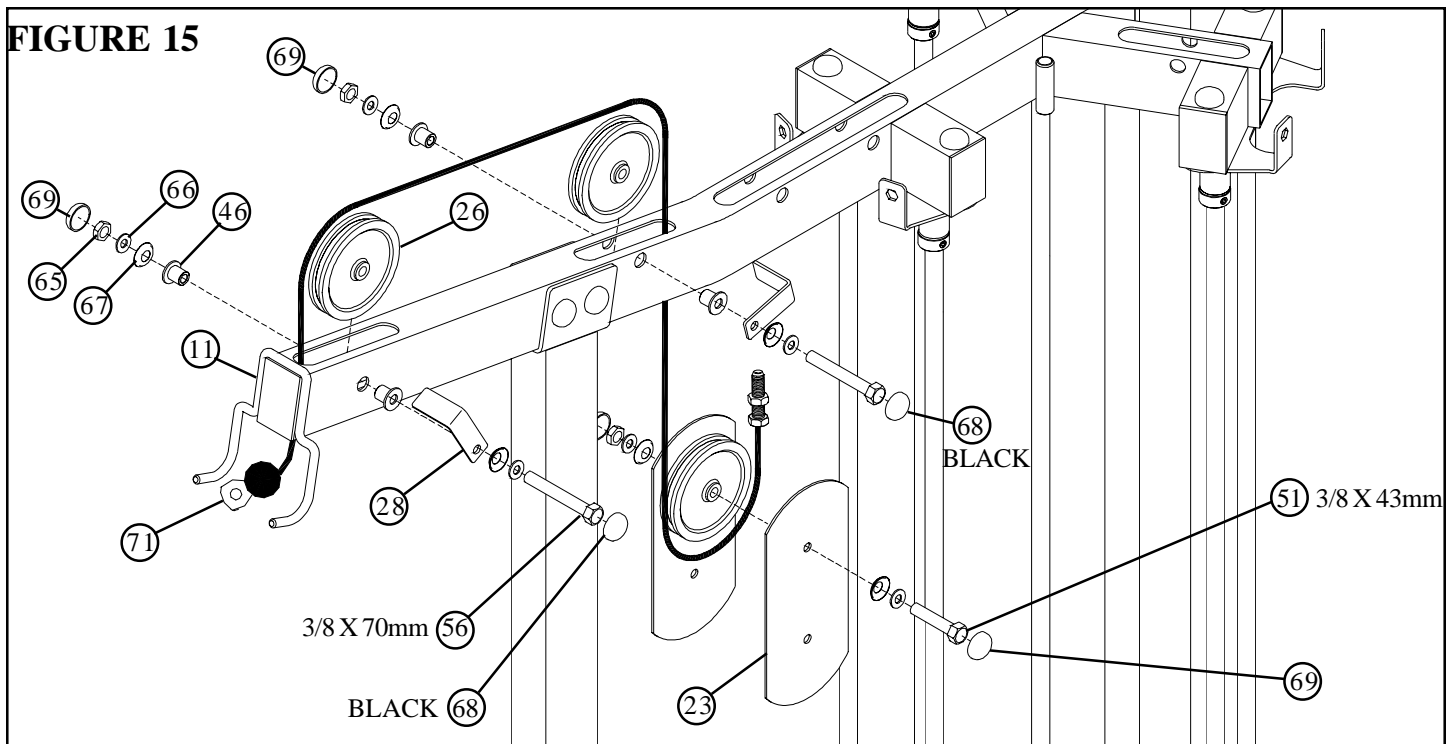

**FIGURE 14**
- **SECURELY** assemble the LAT/LOW ADJUST PLATE (21) to the LAT/LOW FRAME (14) using two BLACK RH CAPS (68), two RH CAPS (69), two 3/8 X 67mm BOLTS (55), four 3/8 SAE WASHERS (66), four 3/8 RH WASHERS (67) and two 3/8 LOW HEIGHT LOCK NUTS (65) as shown in FIGURE 14.
- Assemble the 3/4 X 3-1/8 TAPPED SHAFT (30) to the LAT/LOW ADJUST PLATE (21) using two BLACK RH CAPS (68), one 3/8 X 50mm BOLT (53), two 3/8 SAE WASHERS (66), two 3/8 RH WASHERS (67), one 3/8 X 1/2 SPACER (47) and one 3/8 LOW HEIGHT LOCK NUT (65) as shown in FIGURE 14. (NOTE: Tighten connection enough to remove play, yet allowing TAPPED SHAFT to rotate freely.)